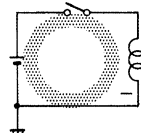

Fig. 3
- (2) In case the positive side cannot be grounded and therefore, the negative side of the power supply has to be grounded, connect a switch to the positive side so that the coil is connected to the negative side (see Fig. 3).